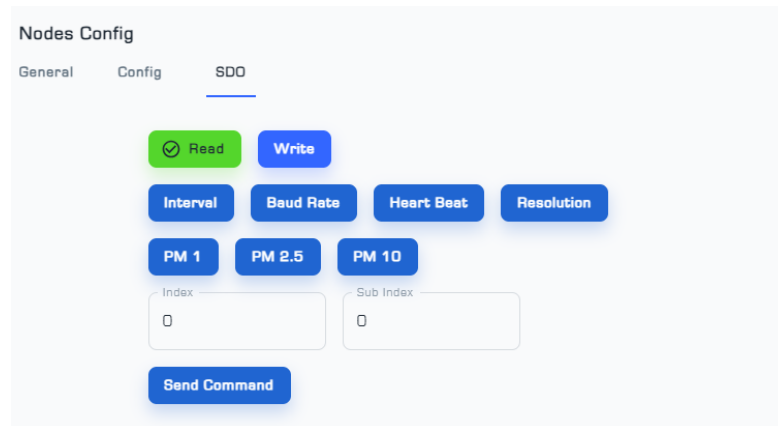

Figure 7: SDO Menu from Nodes Config Page
- The SDO menu is used to change the parameters of Interval ¹, Baud Rate ², and Heartbeat³ (Figure 7).